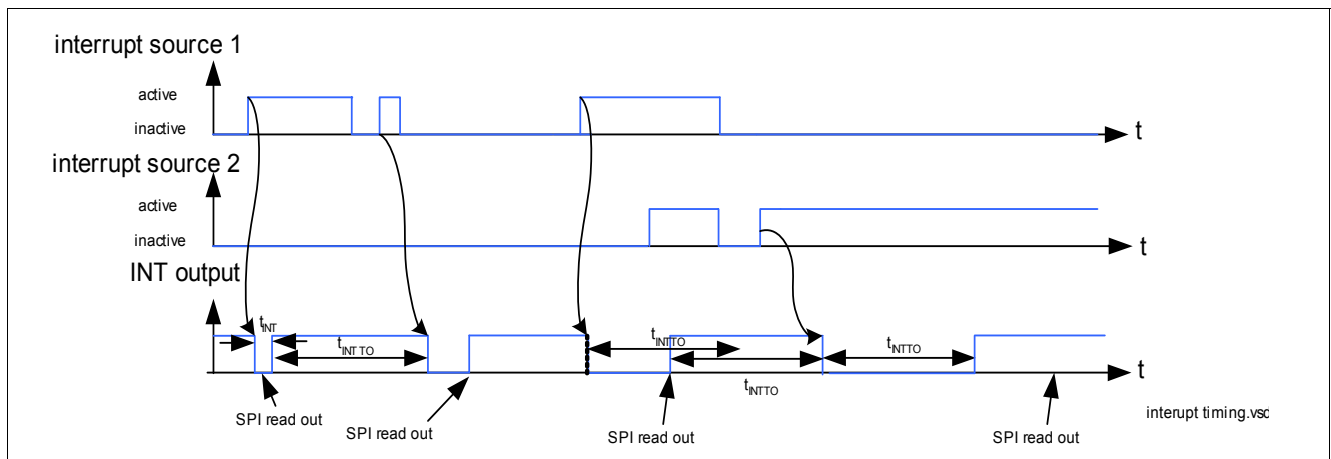

Figure 32 Interrupt Timing
Figure 32 illustrates the interrupt timing. The INT output is set LOW as soon as an interrupt condition occurs. The INT pin is released after a SPI interrupt buffer read out command, that is performed with a Read Only command (111) to register (000). In case consecutive interrupt sources are indicated before the SPI read out, only one INT LOW will be raised but the SPI read out will indicate the interrupt sources. A time-out feature is implemented. The INT pin can be active LOW only for the time t_{INTTO} . Afterwards, the INT pin is released but the INT source is still valid or present in the SPI register. Between two activations of the INT, there is at least a delay of t_{INTTO} . If an interrupt occurs in the meantime, the information is stored and the INT will go LOW after t_{INTO} . The INT pulse width is at minimum t_{INT} .